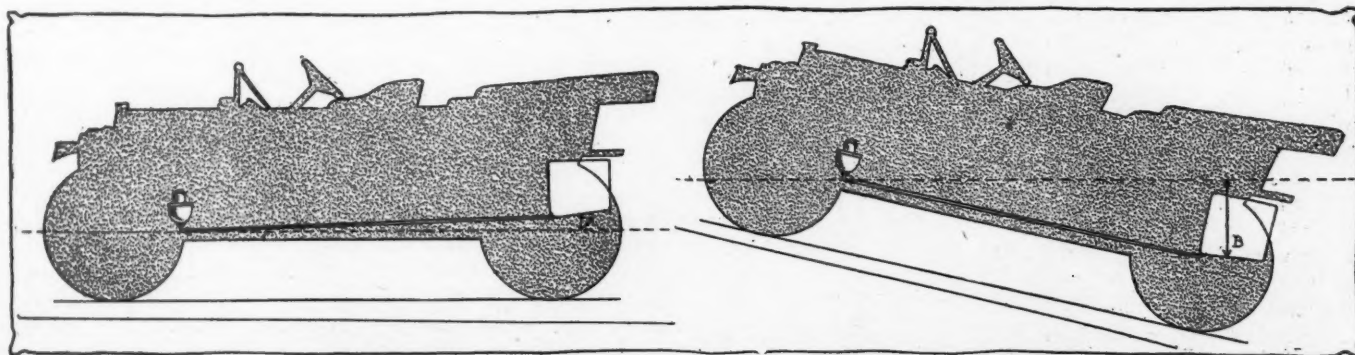

Fig. 1—Showing difference in carburetor and tank relationship when car is on level and hill
2. In order to make the carburetor high enough to be accessible it is necessary to use pressure feed when the tank is carried at the rear. This is brought out in Fig. 1. When the car is on level ground the feed may be by gravity but while on a slope pressure would be necessary.